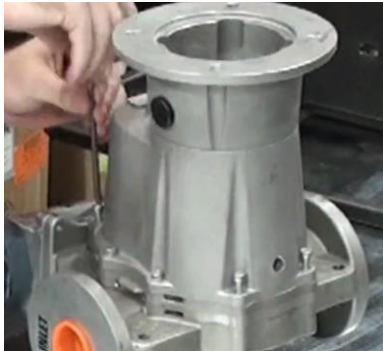

Figure 13
3. Replace socket head screws, Figure 13.